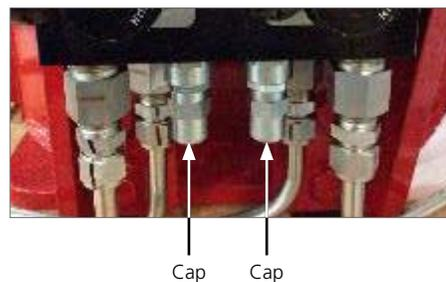

Fig 10.4 Flow regulator cap removal
- Remove the flow regulator caps by manually unscrewing them (see Fig 10.4)